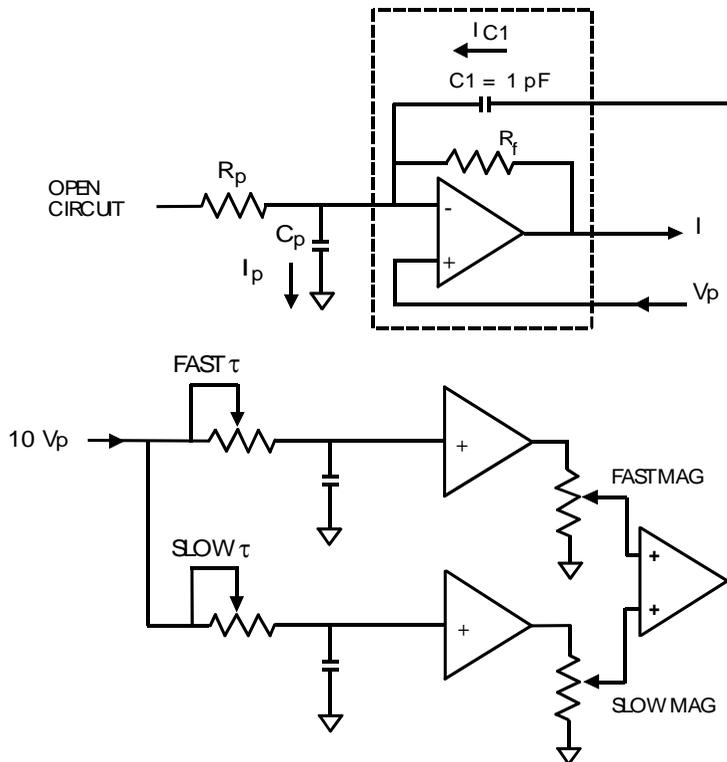

Figure 5.6. Pipette capacitance compensation circuit.
A simplified description of the fast and slow compensation circuitry is shown in Figure 5.6. When the pipette command potential (V_p) changes, current I_p flows into C_p to charge it to the new potential. If no compensation is used, I_p is supplied by the feedback element (R_f) resulting in a large transient signal on the output (I). By properly setting the fast and slow magnitude and τ controls, a current (I_{C1}) can be induced in capacitor C1 (connected to the headstage input) to exactly equal I_p . In this case R_f needs to supply no current and there is no transient on the output.